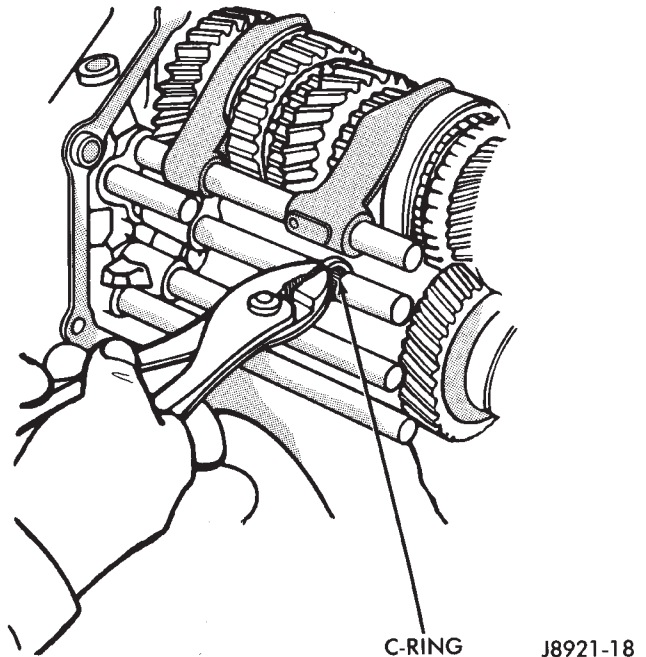

Fig. 18 Shift Rail C-Ring Removal
(4) Remove shift rail C-rings (Fig. 18).